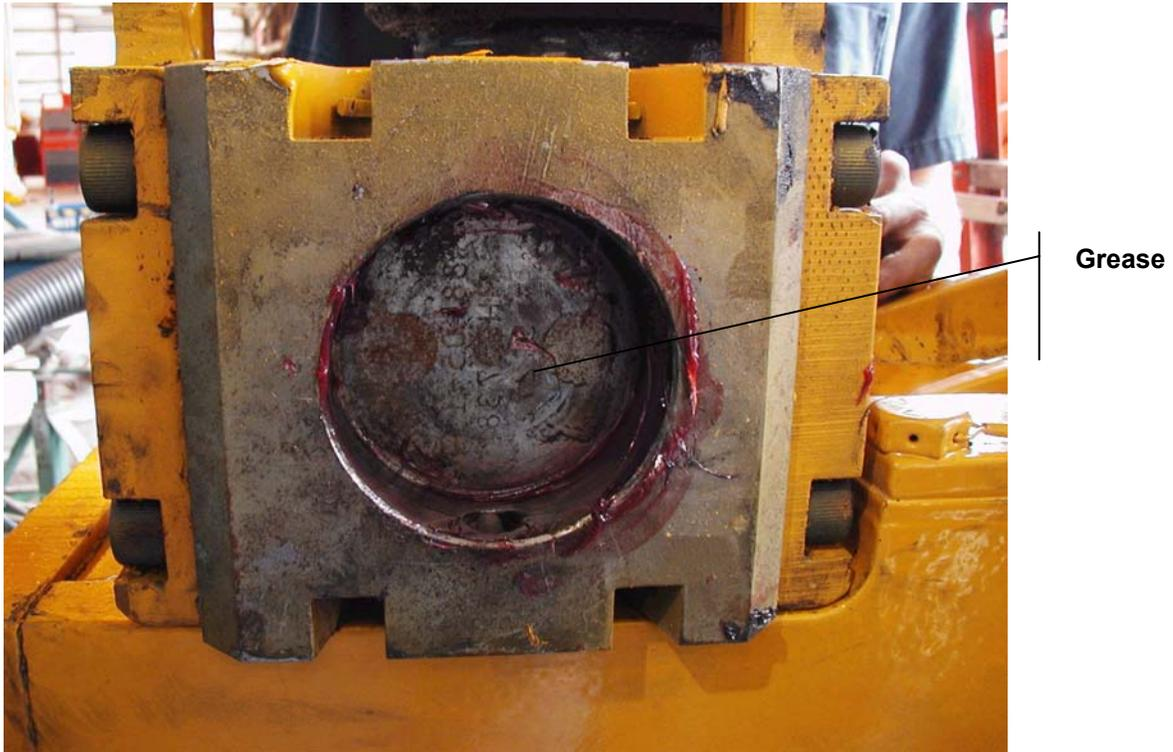

Fig. 7
12. Prior to installing the die blocks, apply a light coat of grease to the recessed area on the back. This will help prevent corrosion and make removal easier next time. See Fig. 7.